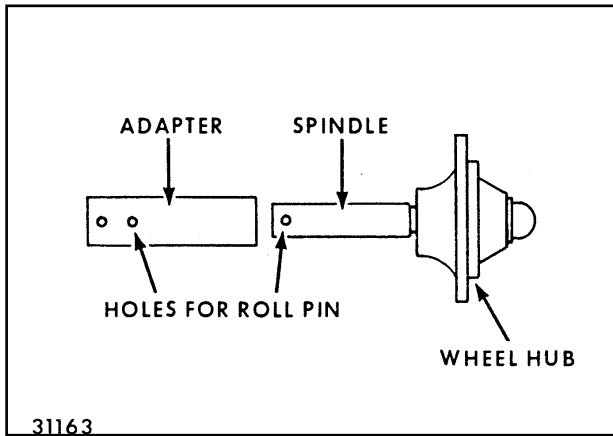

Figure 3-6 - Wheel Spindle and Adapter
- 3-6.1** Slide tube adapter (2-1/4" dia. x 7-1/2" long) over hub spindle (**See Figure 3-6**).